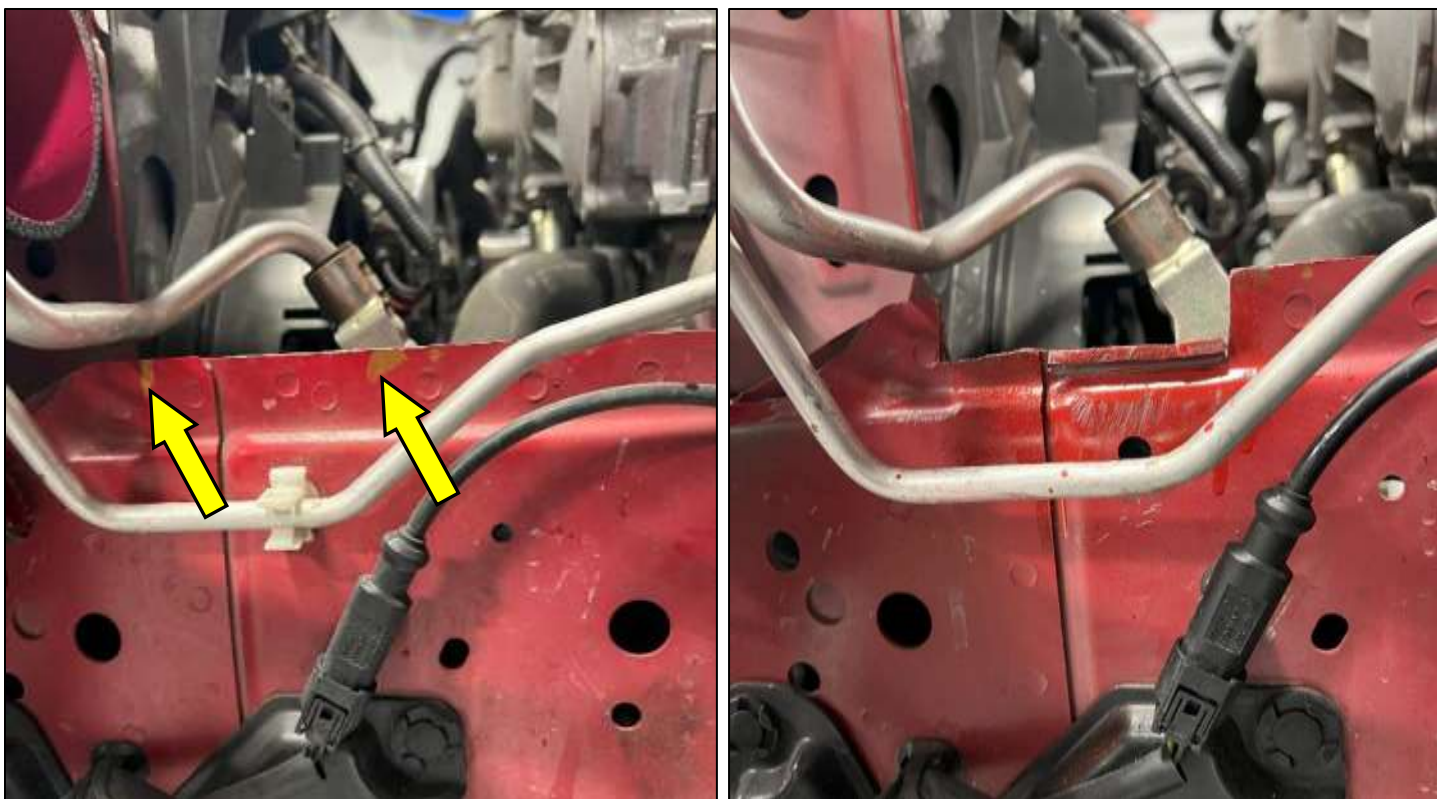

Figure 13
3. The pinch weld on top of the front driver side frame will rail will need to be notched to fit the Supercharger Outlet. Use the images below as reference. *Figure 13.*